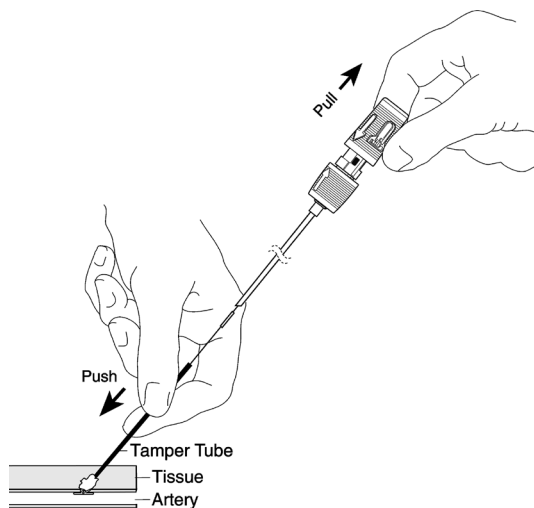

Fig. 15
4. Continue to maintain tension on the suture while continuing to advance the knot and collagen with the tamper tube, following the puncture tract angle (Figure 15). A complete seal is indicated when resistance is felt and hemostasis is achieved. As a guide, in most cases a black compaction marker will be revealed. The essential indicators for a seal are resistance, hemostasis, and in most cases a black compaction marker is revealed.